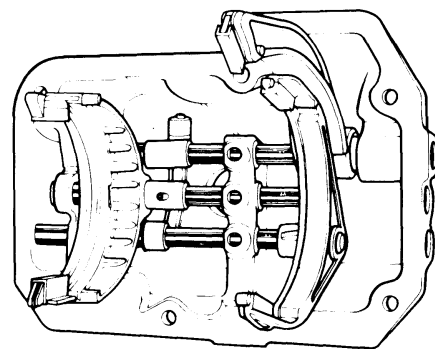

FIG. 18 Shift Housing Removed—Second Gear Position
4. Position the three shift rails and forks so that the three shift gates are in the normal "neutral" position in the gear shift housing assembly. Then, shift the transmission into "Second Gear" (Fig. 18). This will allow the shift housing tower to be removed from the transmission.